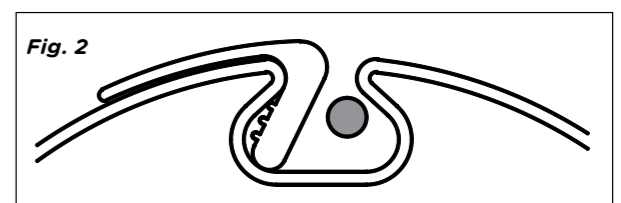

Fig. 2:
3.3. The Clip On-Clip Off profile (see fig. 2)